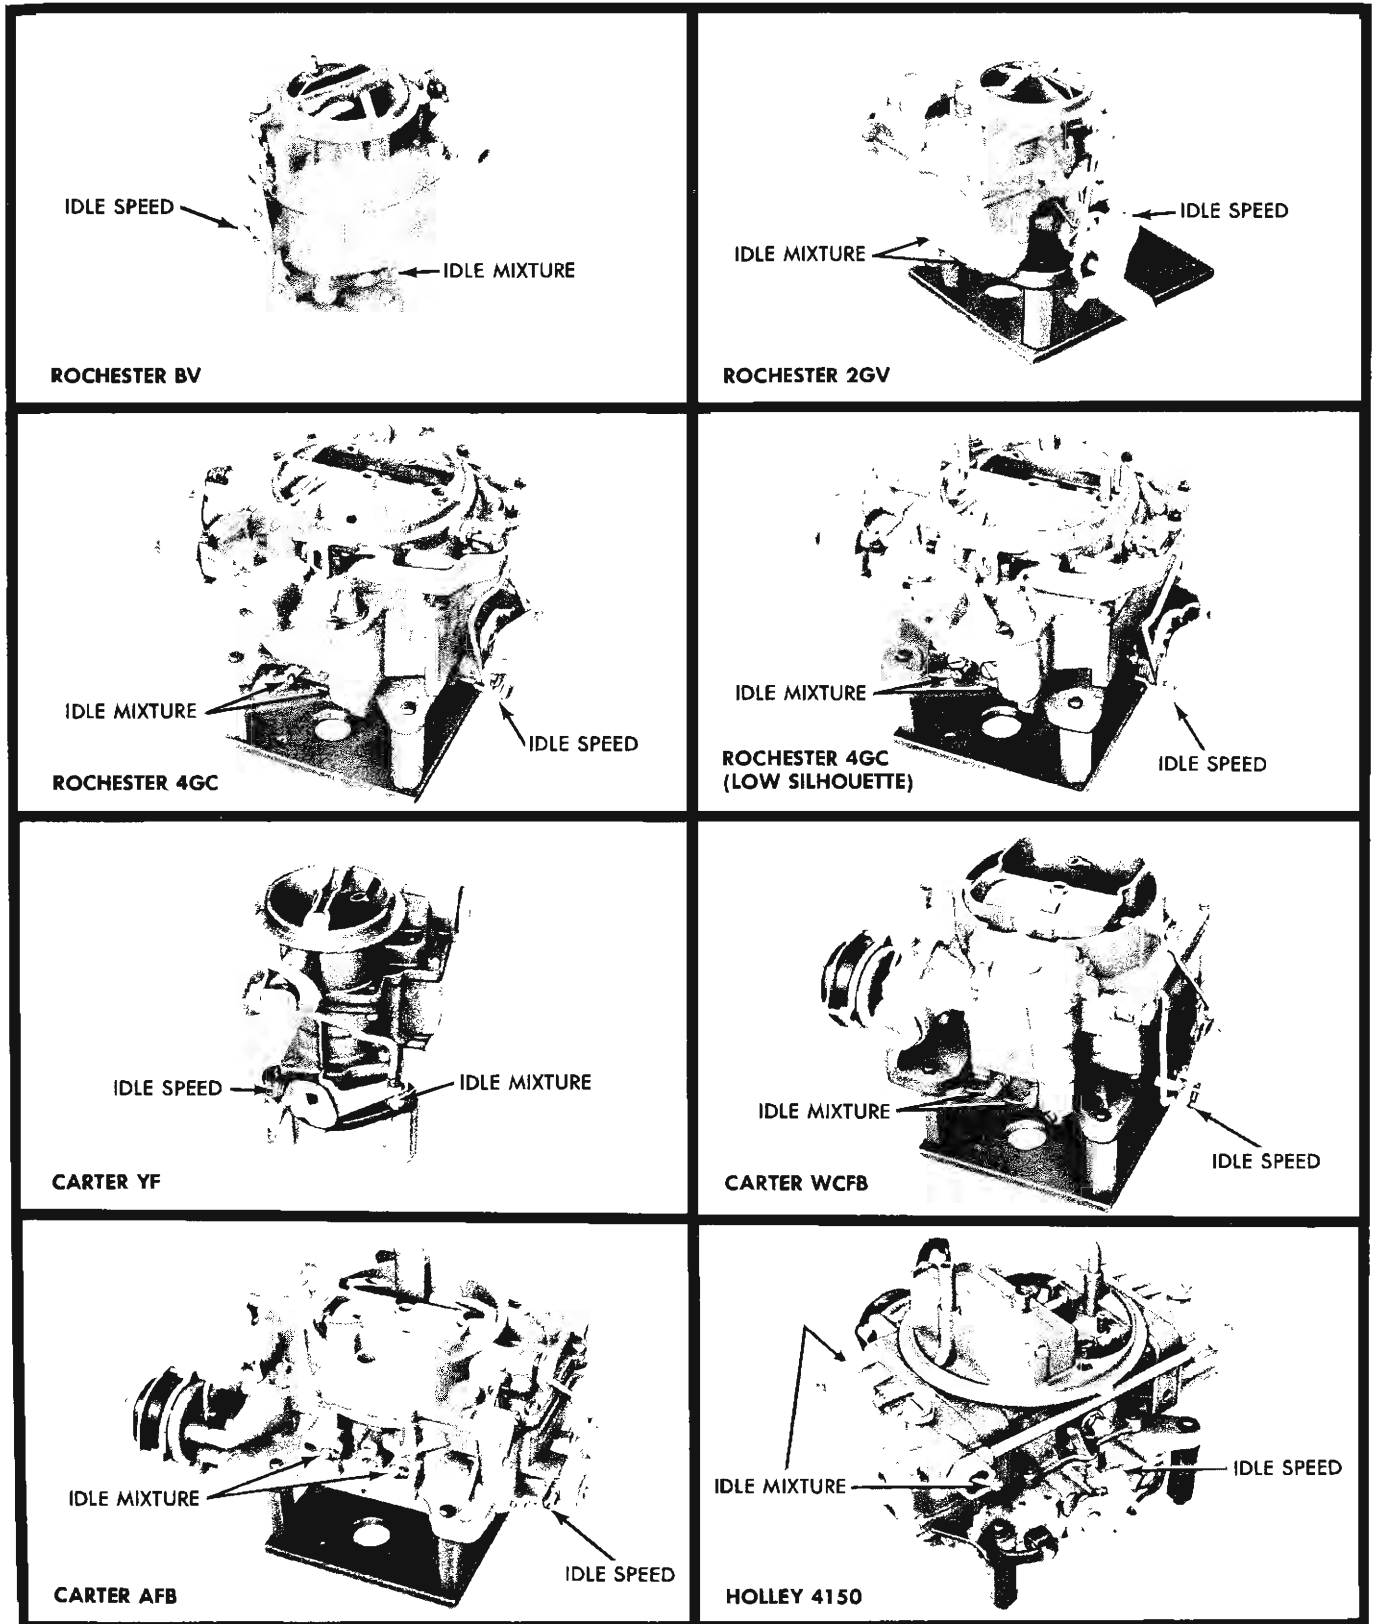

Fig. 20—Idle Speed and Mixture Screws
**Adjust Idle Speed and Mixture (Fig. 20)**